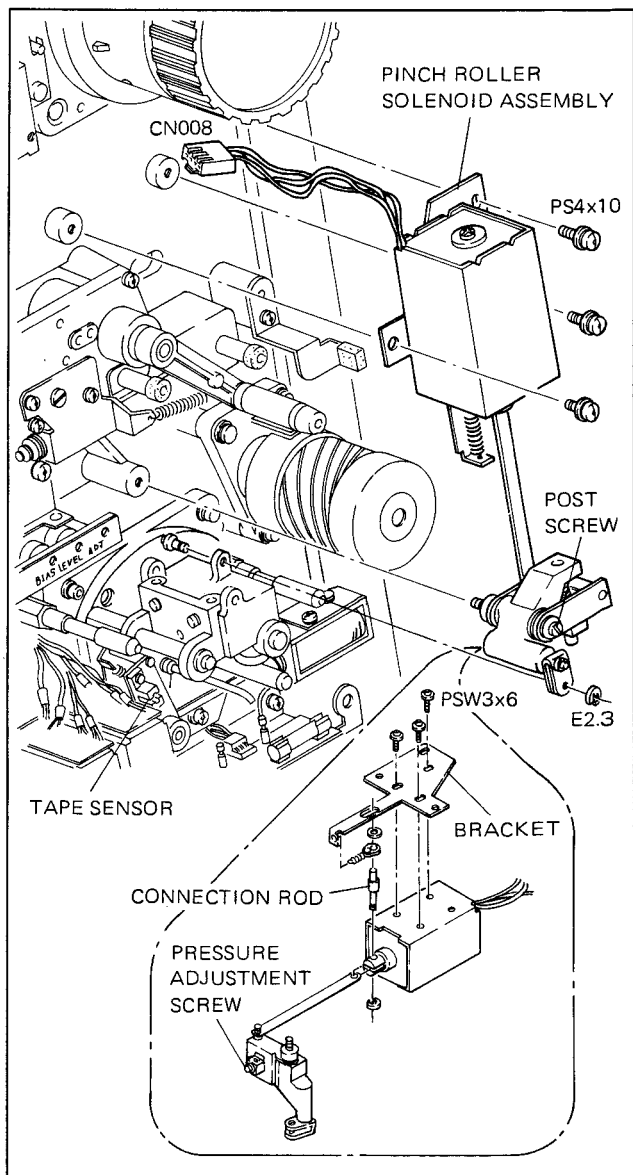

Fig. 3-54. Pinch Roller Solenoid Replacement
2. Remove the E ring (E2.3) and the three screws (PS4×10) shown in Fig. 3-54, and then turn the post screw to remove the pinch roller solenoid assembly.
3. Replace the solenoid for a new one and reassemble, referring to Fig. 3-54. Tighten the solenoid lightly, so that it can be moved by hand.